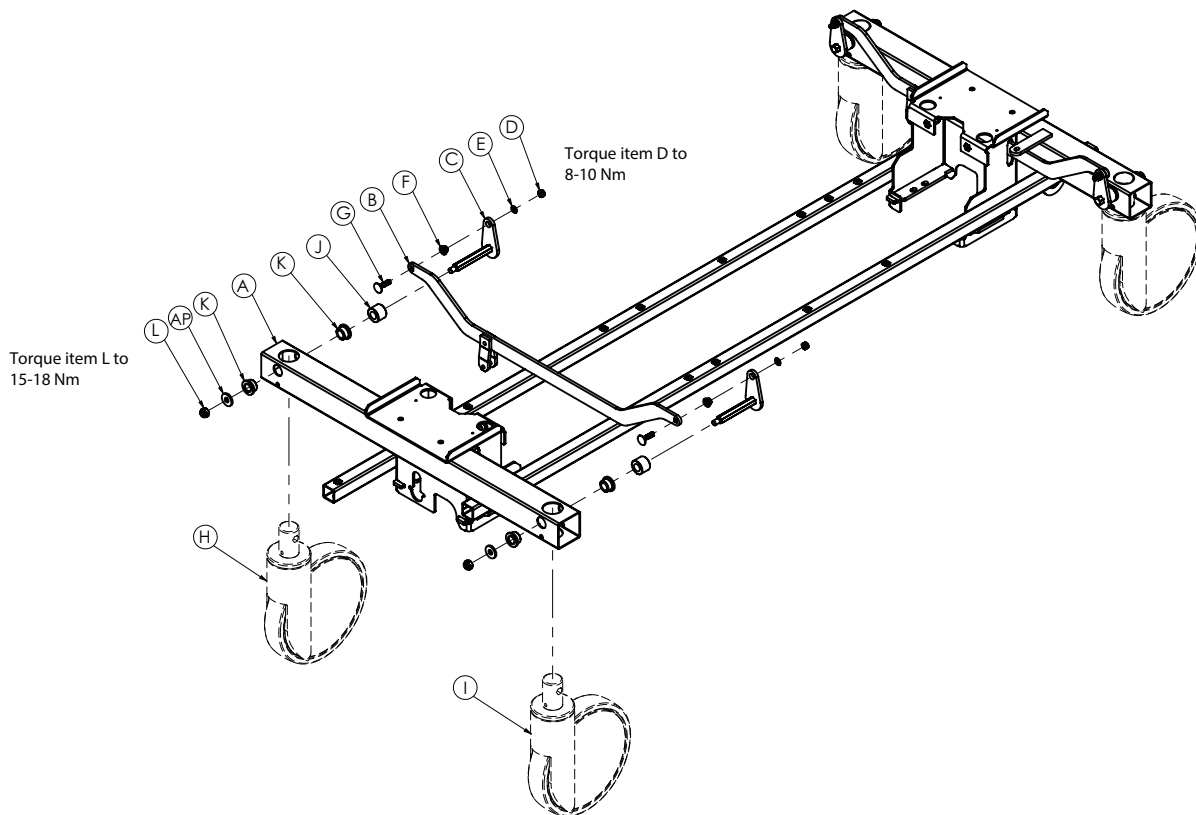

Figure 5 – Caster assembly replacement
3. Use a 13 mm socket wrench with a 3/8" drive ratchet to remove the M8 nut (L) (Figure 5).